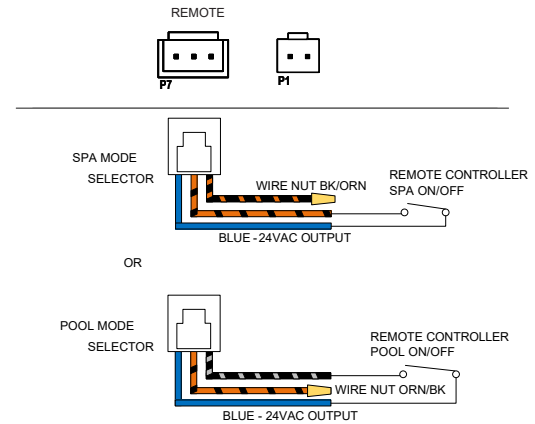

Figure 35. 2-Wire Remote Harness Installation
5. On the 3-wire remote harness, connect the BLUE wire to one side of the remote automation controller and connect the other side to either the ORANGE/BLACK wire for "SPA" operation or the BLACK/ORANGE wire for "POOL" operation. See Figure 35.
7. Install the "3-wire Remote Harness" to the "P7" connector and turn power "ON" to the heater. See Figure 35.